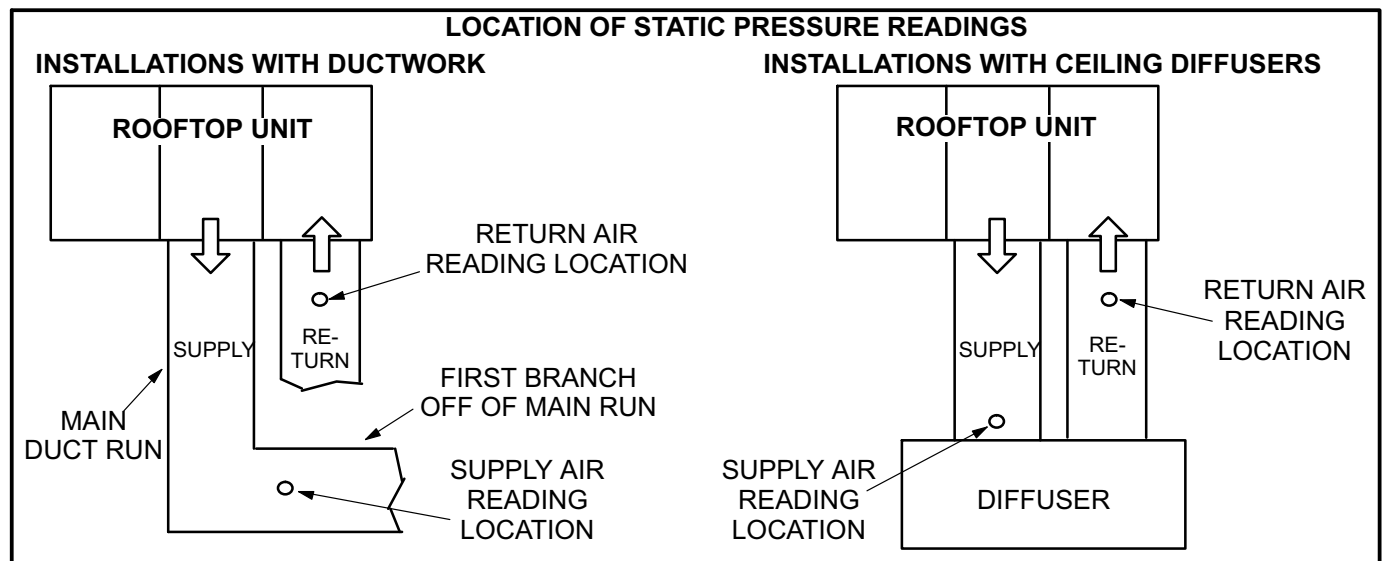

FIGURE 13
- 2- With all access panels in place, measure static pressure external to unit (from supply to return). Blower performance data is based on static pressure readings taken in locations shown in figure 13.